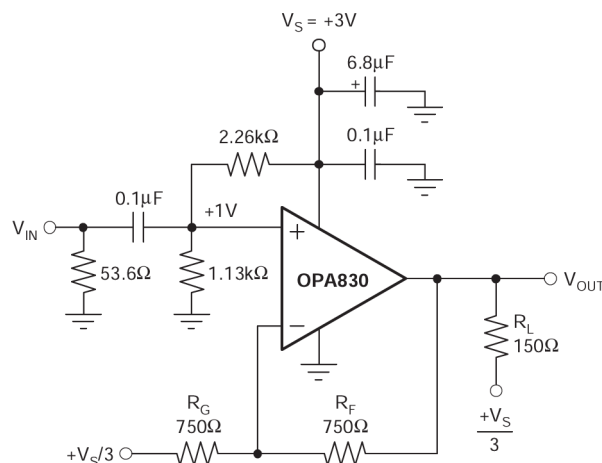
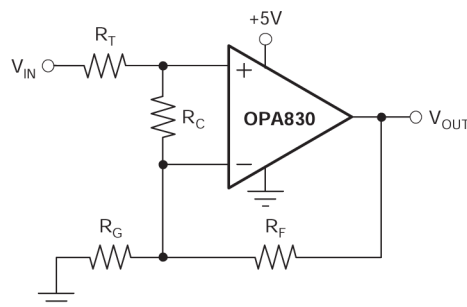

Figure 8-2. AC-Coupled, G = +2, +3V Single-Supply Specification and Test Circuit
Figure 8-9. Compensated Noninverting Amplifier
at $T_A = 25^\circ\text{C}$, $G = +2$, and $R_L = 150\Omega$ to $V_S/3$ (unless otherwise noted); see also Figure 8-2
Figure 8-2 shows the ac-coupled, gain of +2 configuration used for the 3V *Electrical Characteristics* and *Typical Characteristics*. For test purposes, the input impedance is set to 50Ω with a resistor to ground. Voltage swings reported in the *Electrical Characteristics* are taken directly at the input and output pins. For the circuit of Figure 8-2, the total effective load on the output at high frequencies is 150Ω || 1500Ω. The 1.13kΩ and 2.26kΩ resistors at the noninverting input provide the common-mode bias voltage. The parallel combination equals the dc resistance at the inverting input (R_F), reducing the dc output offset due to input bias current.
Frequency response in a gain of +2 can be modified to achieve exceptional flatness simply by increasing the noise gain to 3. One method, without affecting the +2 signal gain, is to add a 2.55kΩ resistor across the two inputs (see also Figure 8-9). A similar technique can be used to reduce peaking in unity-gain (voltage follower) applications. For example, by using a 750Ω feedback resistor along with a 750Ω resistor across the two op amp inputs, the voltage follower response is similar to the gain of +2 response of Figure 8-2. Further reducing the value of the resistor across the op amp inputs further dampens the frequency response due to increased noise gain. The OPA830 exhibits minimal bandwidth reduction going to single-supply (5V) operation as compared with ±5V. This minimal reduction is because the internal bias control circuitry retains nearly constant quiescent current as the total supply voltage between the supply pins changes.
The criterion for setting this R_S resistor is a maximum bandwidth, flat frequency response at the load. For a gain of +2, the frequency response at the output pin is already slightly peaked without the capacitive load, requiring relatively high values of R_S to flatten the response at the load. Increasing the noise gain also reduces the peaking (see Figure 8-9).
Figure 8-9 shows a noninverting amplifier that reduces peaking at low gains. Resistor R_C compensates the OPA830 to have greater noise gain (NG), which reduces the ac response peaking (typically 5dB at $G = +1$ without R_C) without changing the dc gain. V_{IN} must be a low impedance source, such as an op amp. The resistor values are low to reduce noise. Using both R_T and R_F helps minimize the impact of parasitic impedances.